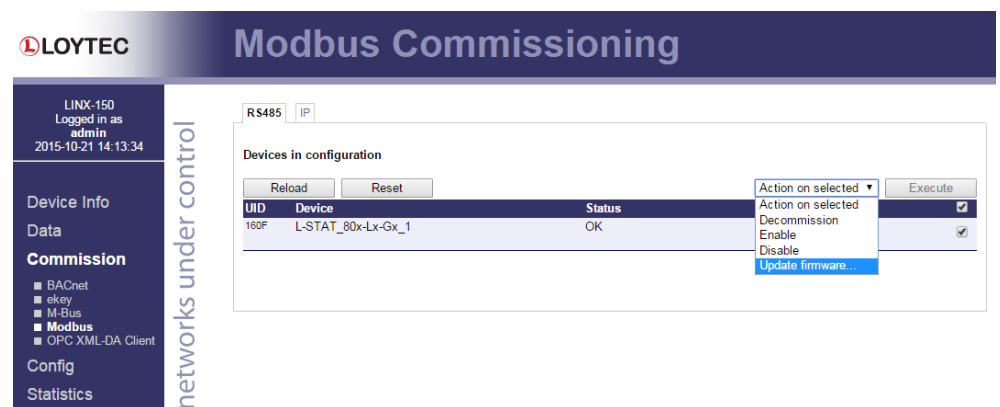

Figure 13: Web Interface – Modbus Commission
3. Select **Update firmware...** from the drop-down menu as shown in Figure 13.